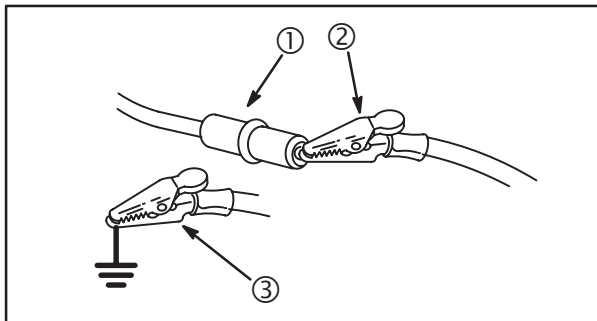

Fig. 54
3. With engine running at top governed speed, attach one end of a jumper (2) wire to BLUE wire from control module (1). Attach the other end of the jumper wire (3) to a good ground, **Fig. 54**. After 4 – 6 seconds engine speed should return to idle (approximately **1750 RPM**).